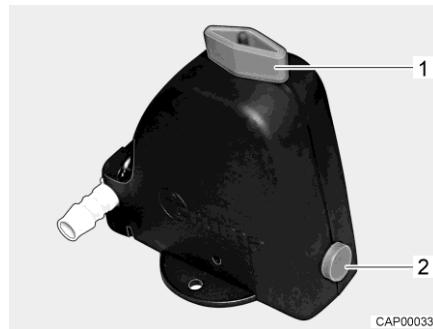

Fig. 184 Safety/drainage valve (Truma)
- Close the safety/drainage valve (Truma). Turn the knob (Fig. 184,1) perpendicular to the safety/drainage valve and push the push button (Fig. 184,2) in.